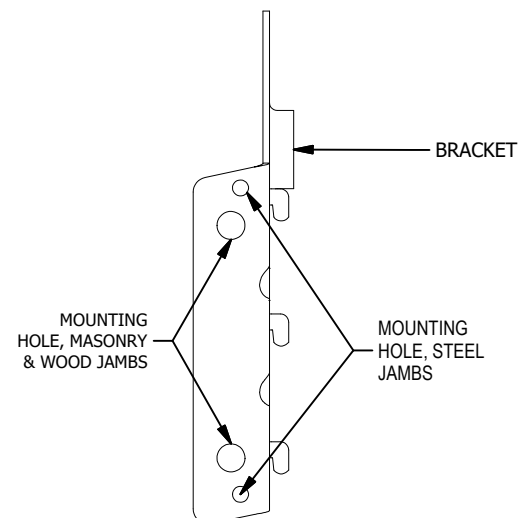

FIGURE 9: FASTENER PLACEMENT
- The appropriate fastener must be installed at each hole location in brackets and guides. See *figure 9*.